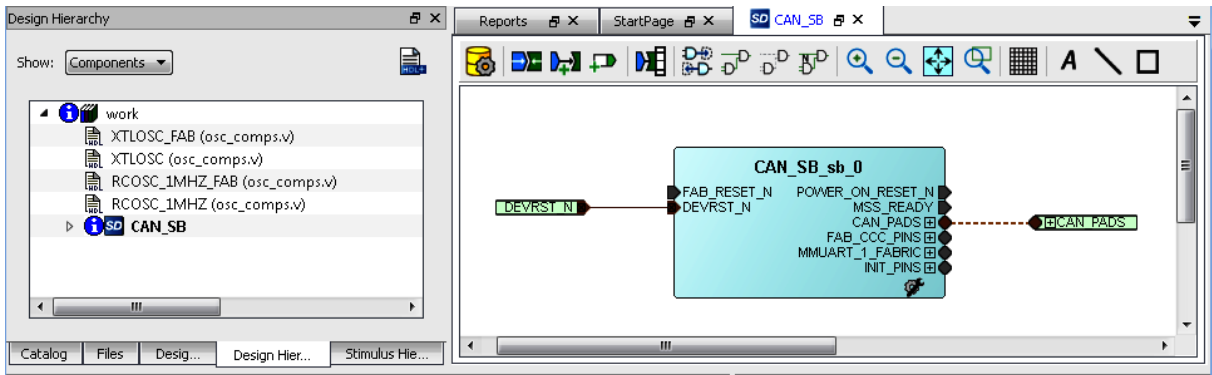

Figure 12 • System Builder Top-Level Block Diagram
21. Click **Finish**. The System Builder generates the system based on the selected options. The System Builder block is created and added to the Libero SoC project as shown in Figure 12.